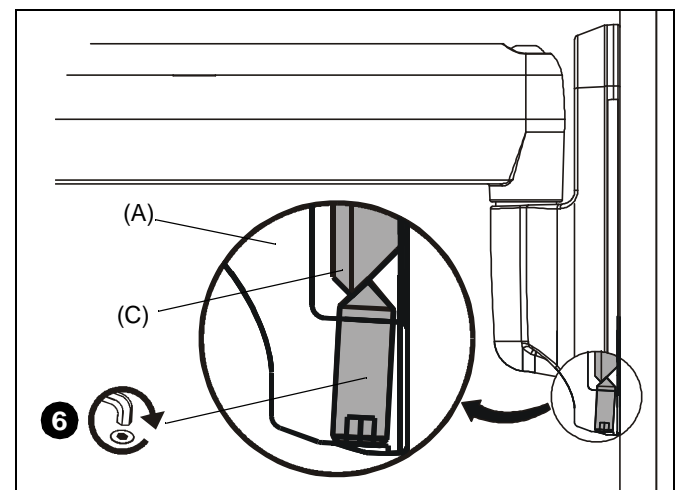

Figure 3
6. Using hex key (Q), tighten set screw. (See Figure 3) Ensure set screw engages *back* side of bracket (C) to properly secure mount.